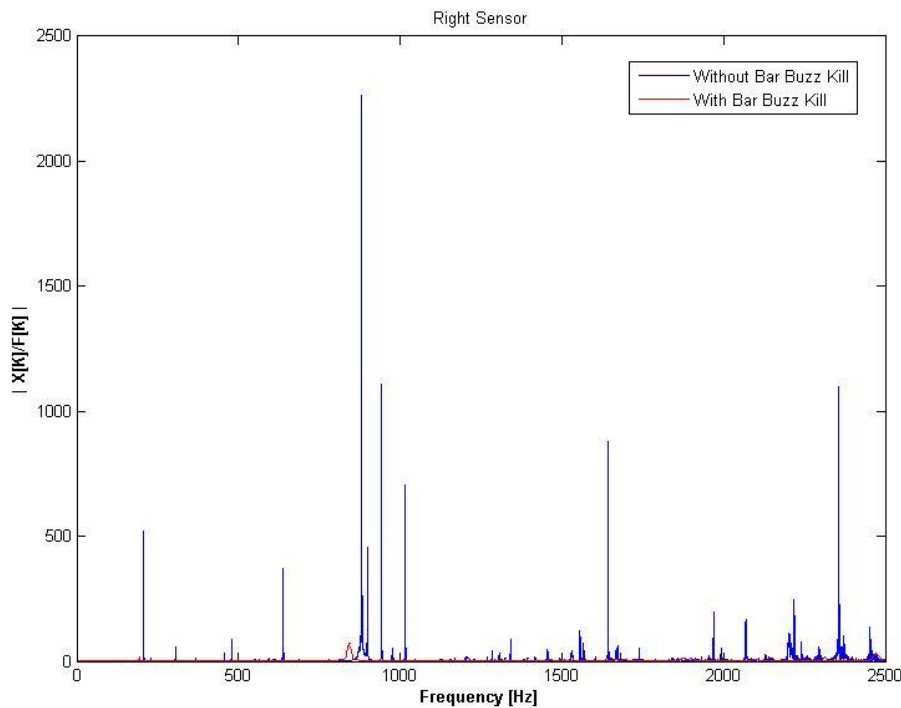

Figure 3: FFT of the response of Right Sensor (shows vibration reduction in handlebar)
Figures 3 and 4 below show the response of sensors that were attached to a commercially available handlebar. The graph shows up to 2500 Hz in actual and log scales. Testing was done in two stages. We analyzed multiple frequency ranges to better understand the response of the bar and also to study the effectiveness of **Bar Buzz Kill** for all frequency ranges.
- There are multiple natural frequencies (blue curve) as can be seen in Figure 3. Bar Buzz Kill significantly reduces the vibrations at all frequencies as can be seen from the system response after adding **Bar Buzz Kill** to the handlebars (red curve).